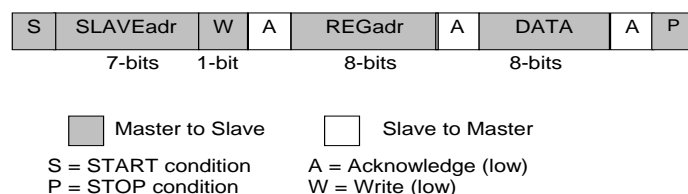
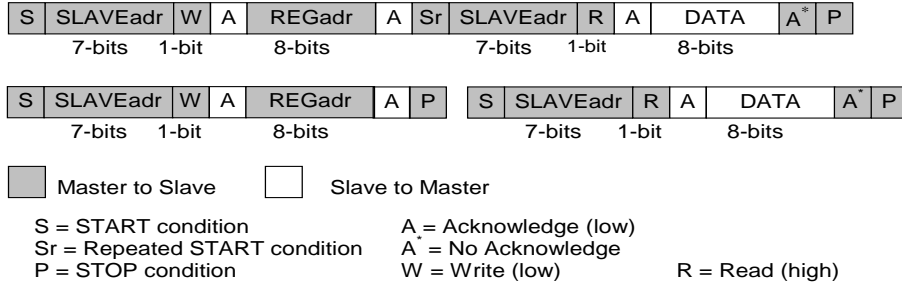

Figure 10: I²C Byte Write (SDA Line)
Figure 11: I²C Byte Read (SDA Line) Examples
The I²C bus is monitored for a valid slave address whenever the interface is enabled. It responds immediately when it receives its own slave address. The acknowledge is done by pulling the SDA line low during the following clock cycle (white blocks marked with A in Figure 10 and Figure 11).
The protocol for a register write from master to slave consists of a START condition, a slave address with read/write bit, and the eight-bit register address followed by eight bits of data, terminated by a STOP condition. DA9142-A responds to all bytes with acknowledge (A), see Figure 10.
When the host reads data from a register it first has to write to DA9142-A with the target register address and then read from DA9142-A with a repeated START, or alternatively a second START, condition. After receiving the data, the host sends no acknowledge (A*) and terminates the transmission with a STOP condition, see Figure 11.